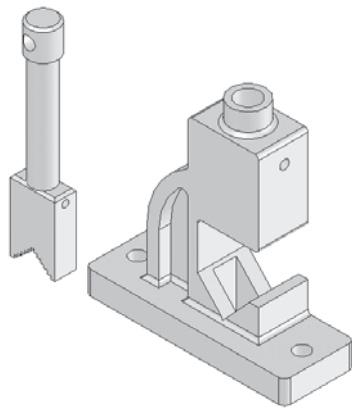

Figure 11-78 The Screw assembled with the Moveable Jaw
12. Choose the **OK** button from the **SmartMates PropertyManager**. Figure 11-78 shows the Screw after applying the mates.